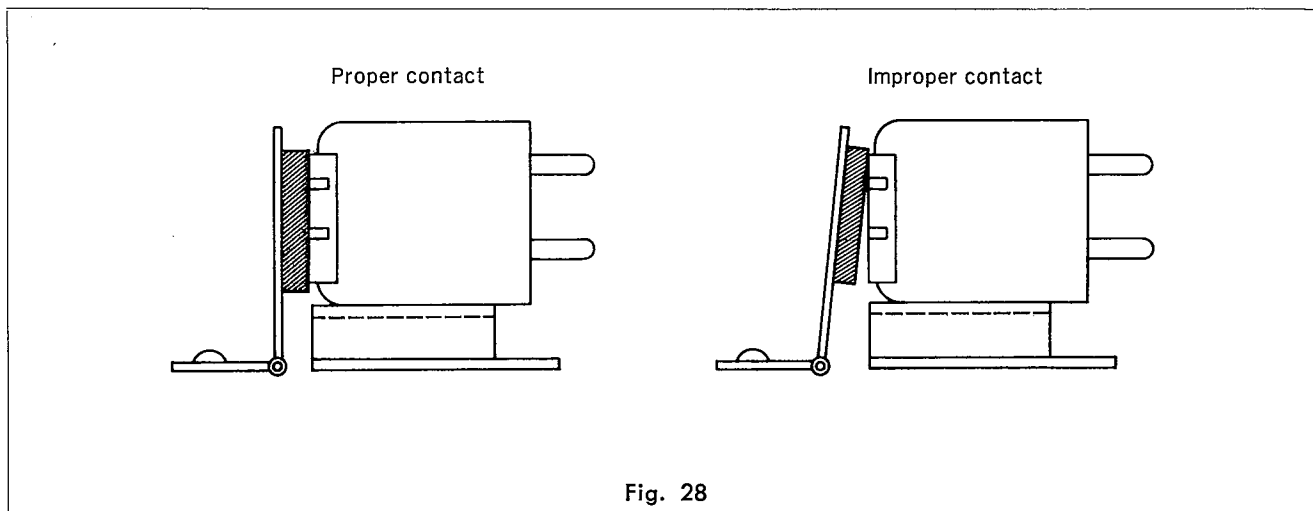

Fig. 28
- b) The felt contacts, the pad plate, and the most protruding part of the head front are at a right angle, as described in 1-2 a above, and in the surface contact, as shown in Fig. 28.